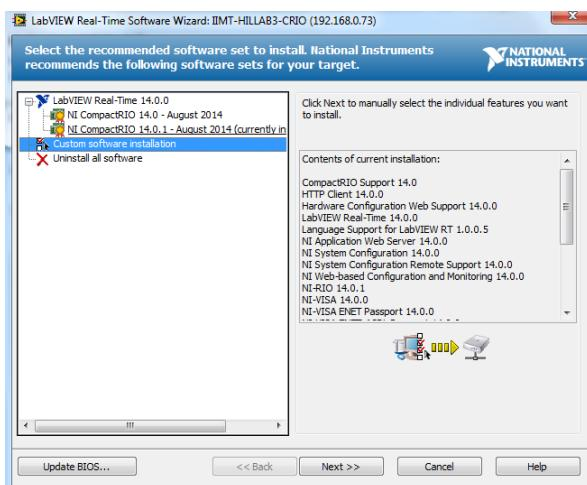

Figure 31: NI MAX - NI Veristand Engine installation 1
2. Now you choose Custom Software installation in the menu, see Figure 31